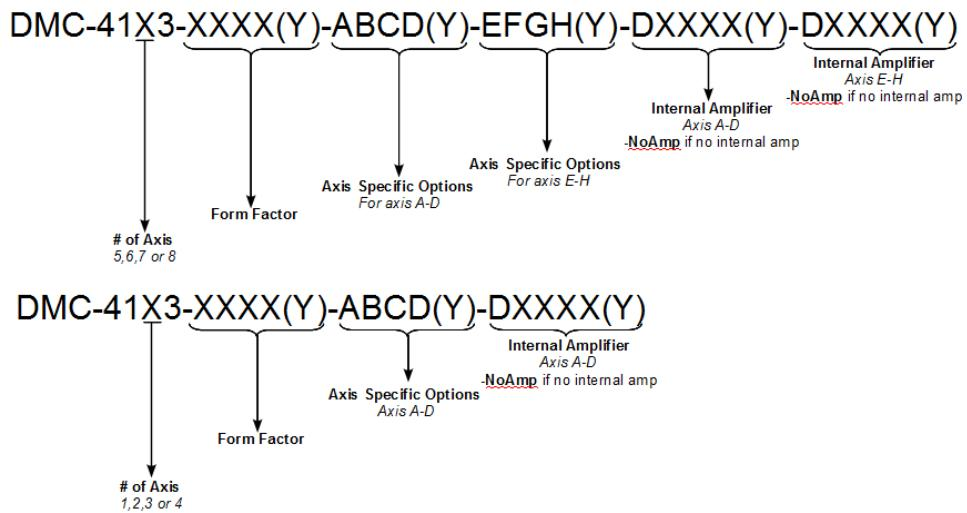

Figure 1.3: Layout of the full DMC-41x3 part number
The full DMC-41x3 part number is a combination of the DMC controller part number (DMC-41x3), form factor (“-XXXX(Y)), axis-specific options (-ABCD(Y) and -EFGH(Y)), and optional amplifier types (-DXXXX(Y)), where Y is customization options for that specific board or set of axis. The layout of the full DMC-41x3 part number is shown in Figure 1.3 below.
The placement of the AMP/SDM options is extremely important for 5-8 axis models. Reading the DMC-41x3 part number in Figure 1.3 from left to right, the first AMP/SDM (Axis A-D) will be placed in the AMP(1) spot as shown in Figure 1.2 and the second AMP/SDM (Axis E-H) will be placed in the AMP(2) spot.